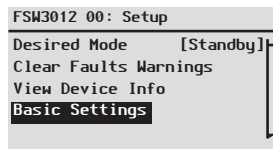

Figure 22 Selecting Basic Settings From the Device Setup Screen
1. On the **FSW3012 00:Setup** screen (Figure 22), press the Down arrow button until **Basic Settings** is highlighted.